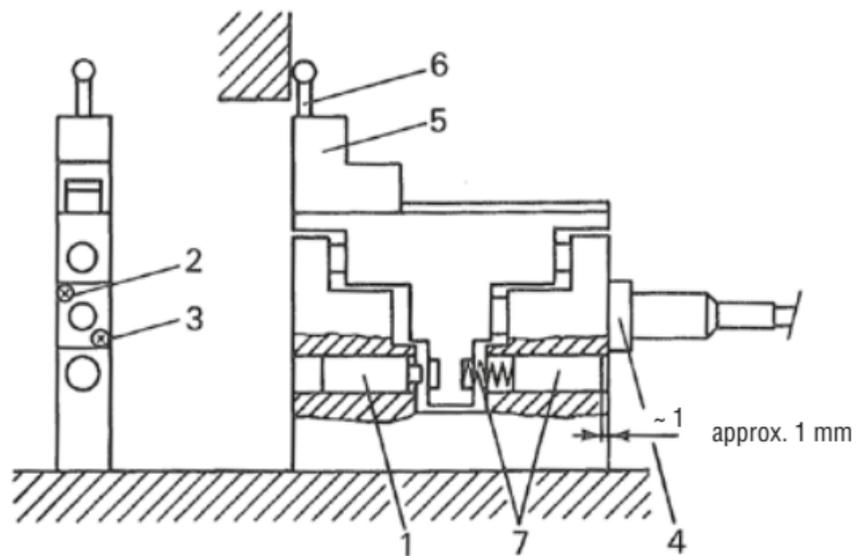

Fig. 5.
3. Set the end-stop screw **1** (Fig. 5) in such a way that the probe is approximately at electronic zero (the probe is so adjusted at the factory that the mobile part of the probe is centered in relation to the fixed part at electronic zero).
4. Mount the insert-holder **5** and the insert **6**. Align and tighten the measuring insert **6** (Fig. 5).
- Move the mobile coil **4** (Fig. 5) by means of screws **2** and **3** (Fig. 5) until the probe is within ± 10 microns of electronic zero. You will have to alternate in turning screws **2** and **3** because screw **2** tightens the coil. When adjustment is just about complete, end up by tightening screw **3** (to ensure that the coil is tightly held).